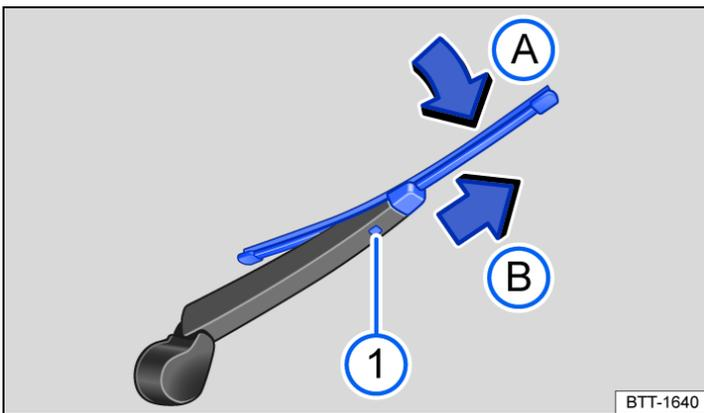

Fig. 2 Changing the rear window wiper blade.
- Press and hold the release button → Fig. 2 .